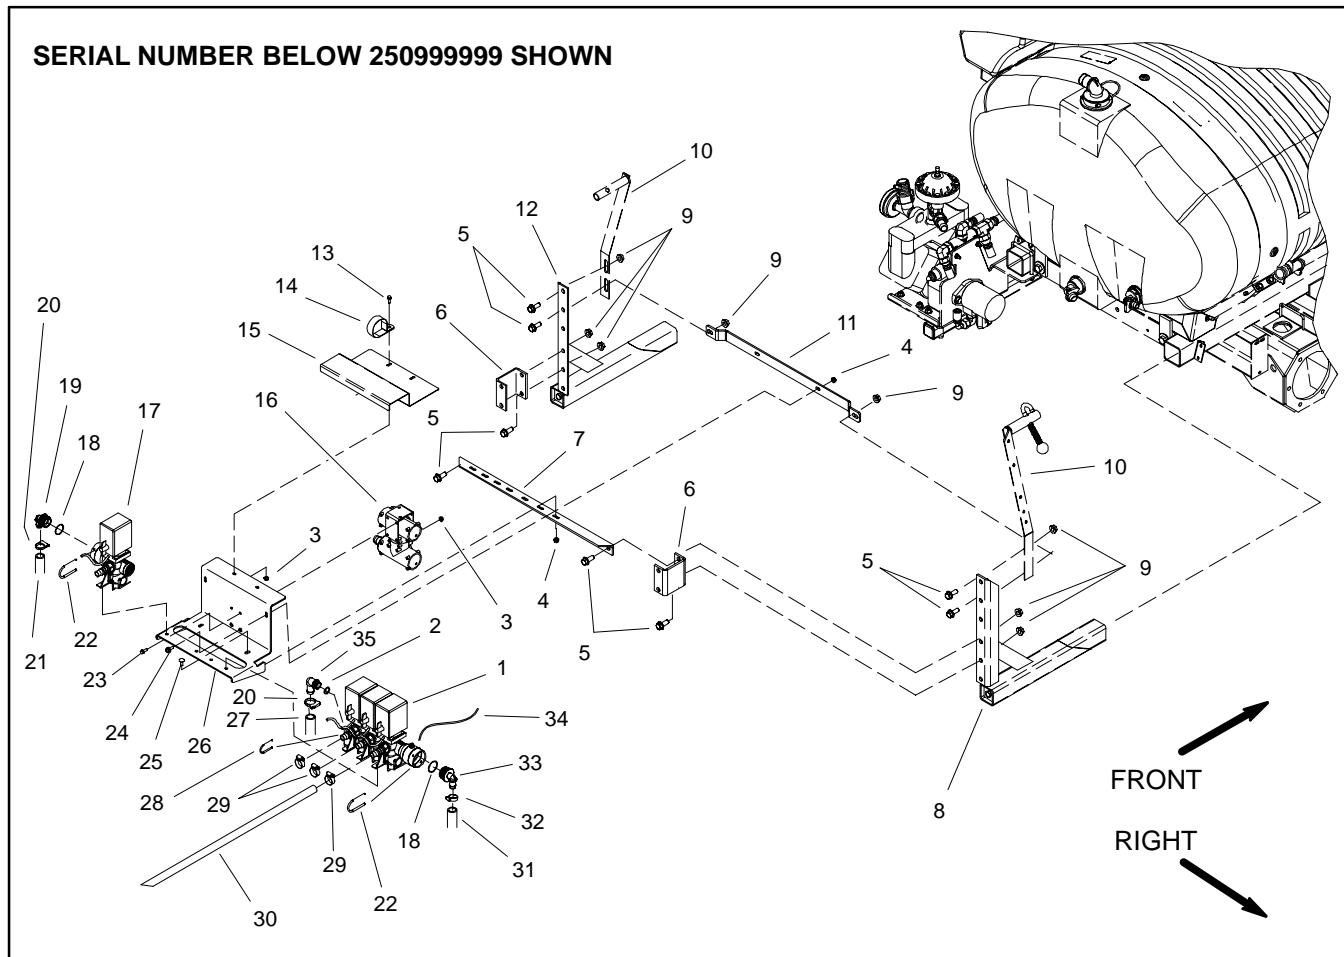

Figure 20
### Removal (Fig. 20)
6. Remove additional spray control components as required using Figure 20 as a guide. Discard all removed O-rings and gaskets.
### Assembly (Fig. 20)
1. Install spray control components using Figure 20 as a guide. Replace all removed O-rings and gaskets.